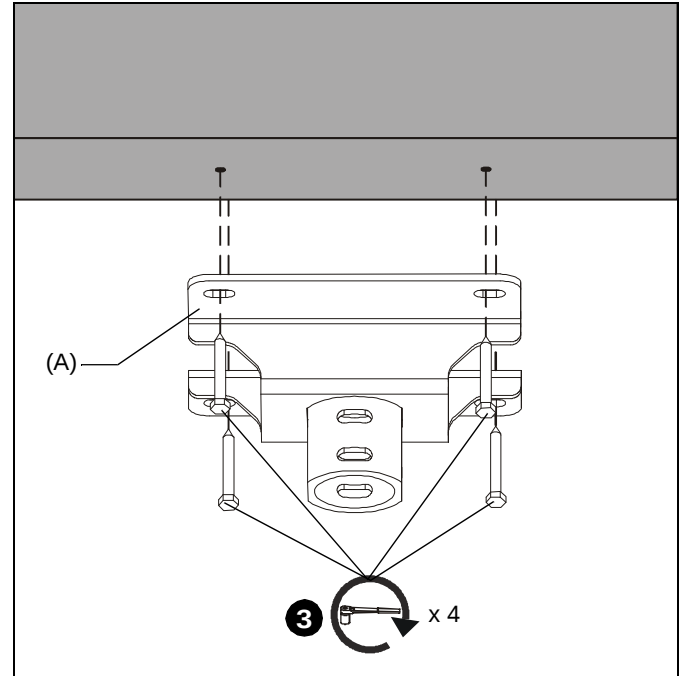
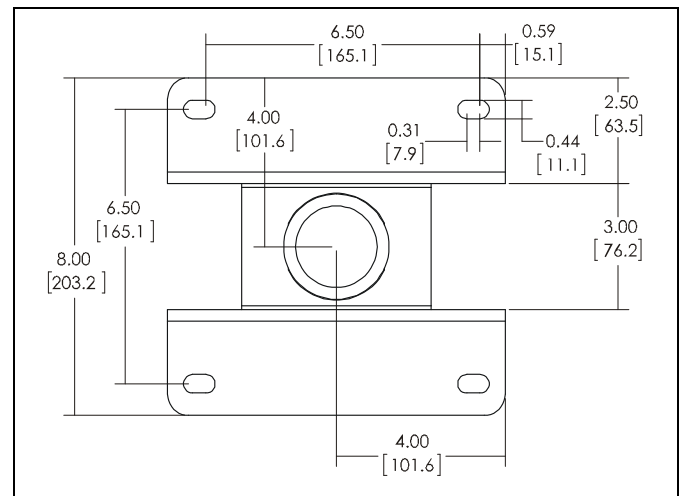

Figure 2
Figure 3
3. Install and tighten four 5/16" x 2-3/4" (minimum) lag screws (not included) through CPA330 (A), into wood stud cross bracing. (See Figure 2) (See Figure 3) for dimensions details.
2. Secure the threaded rods to the CPA mount with ASTM A307 or better 3/8" jam nuts (not provided) and washers (one of each on inside and one of each on outside--not provided). (See Figure 3) for dimensions details.
1. Using ceiling plate (A) as a template, mark locations of four pilot holes on ceiling.
3. Use four UX10 anchors (not provided) to secure CPA mount into solid concrete ceiling. (See Figure 3) for dimensions details.